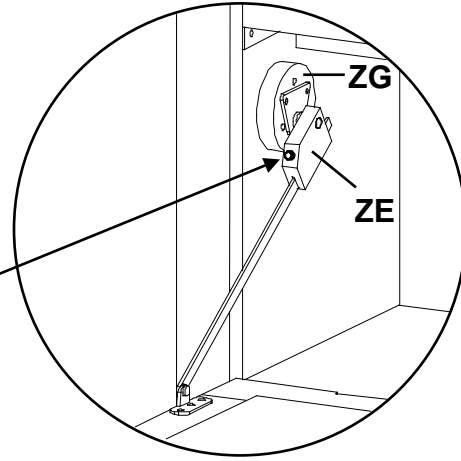

Fig. 6
6. Open the Door (Rc). To adjust the brake tension on the Door Stay (ZE) turn the screw on the front of the Door Stay clockwise to loosen or counterclockwise to tighten. See Figures 6 and 6a.